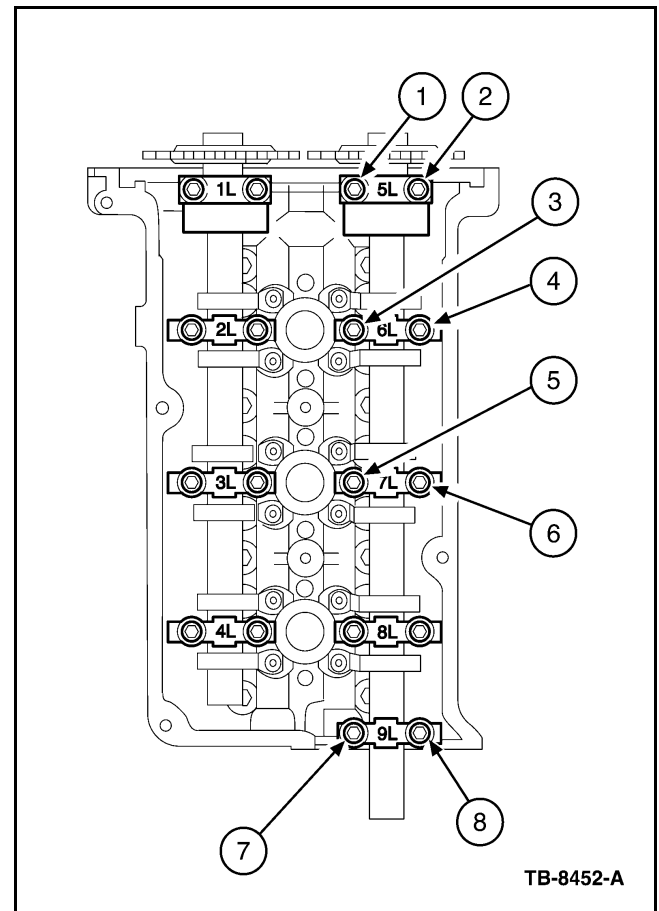

Figure 2 - Article 06-3-5
4. Torque bolts in sequence shown in Figure 2 to 72 lb-in (8 N•m) excluding cam cap number 8L camshaft cap.